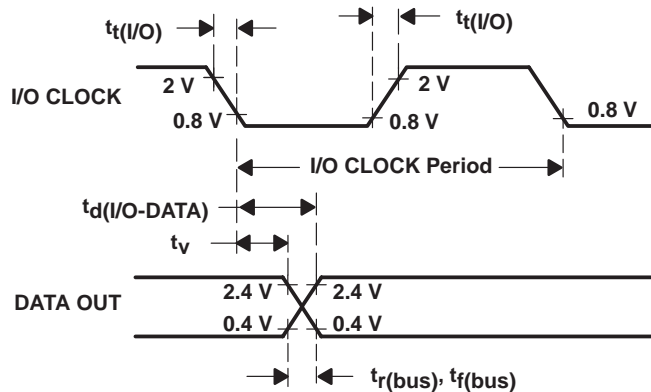

Figure 5. I/O CLOCK and DATA OUT Voltage Waveforms
9. I/O CLOCK period = $1/(\text{I/O CLOCK frequency})$. Sampling begins on the falling edge of the third I/O CLOCK, continues for seven I/O CLOCK periods, and ends on the falling edge of the 10th I/O CLOCK (see Figure 5).